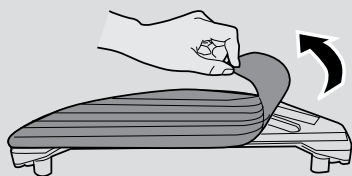

Fig. 13
1. Remove the mopping cloth from the bottom part of the water tank. [Fig. 13]